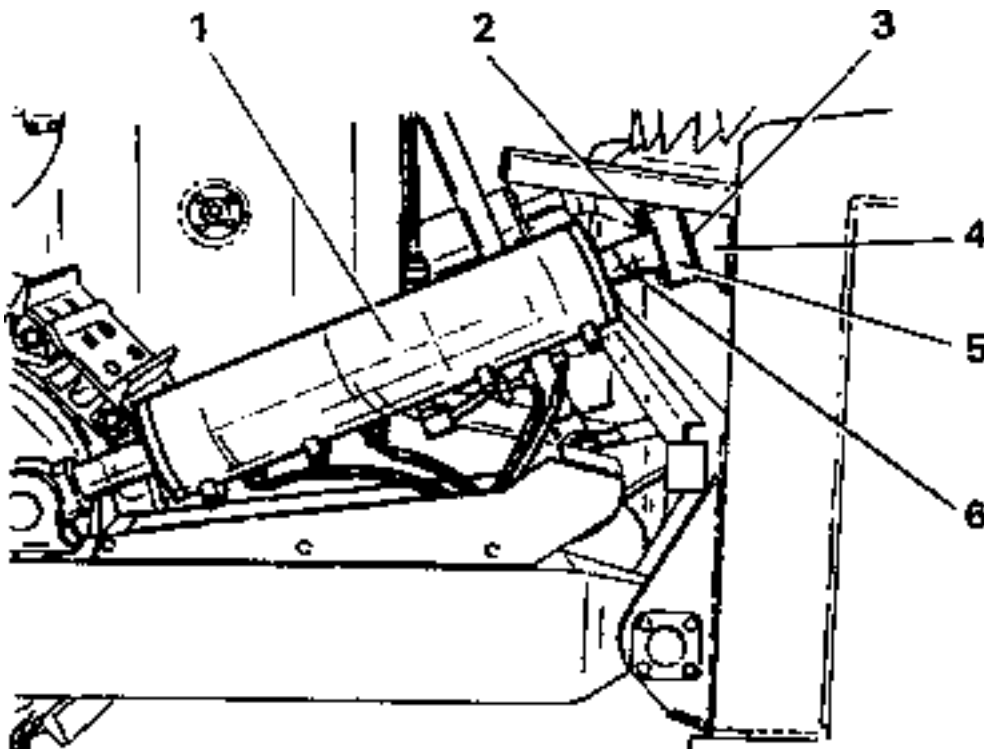

Fig. 5.39. Adjustment of Upper Strut and Tilt Cylinder (Machines with Pitch Cylinder)
**5.15.3. UPPER STRUT AND TILT CYLINDER ADJUSTMENT (Fig. 5.39)**